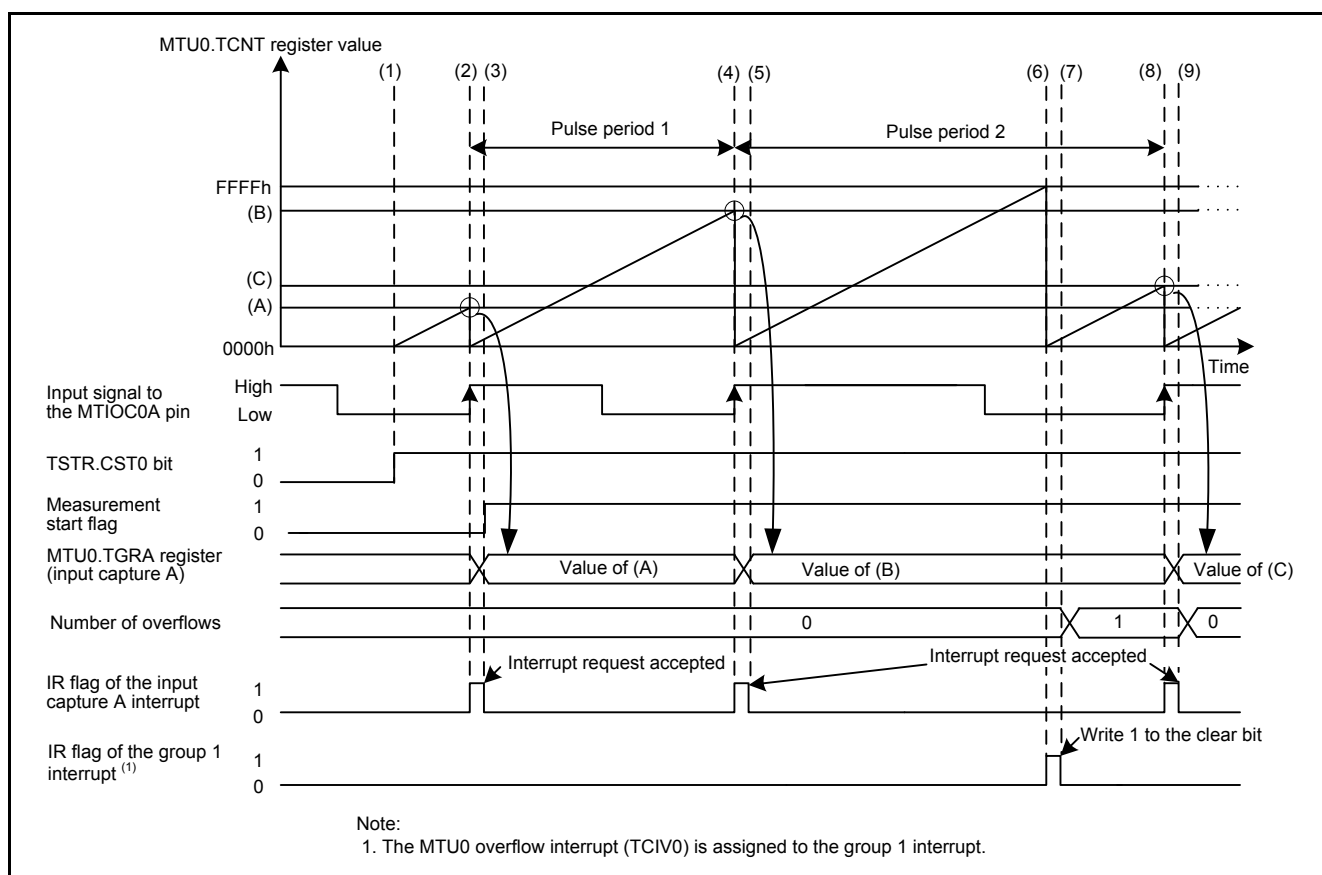

Figure 5.1 Timing Diagram of the Pulse Period Measurement
- (1) When the TSTR.CST0 bit is set to 1, MTU0 counter starts counting.
- (2) When the MTIOC0A pin level changes from low to high, the MTU0.TCNT register value is transferred to the MTU0.TGRA register and the counter is cleared. At the same time, an MTU0 input capture A interrupt request is generated.
- (3) In the input capture A interrupt handler, the measurement start flag is set to 1 (measurement starts) and the number of overflows is cleared.
- (4) When the MTIOC0A pin level changes from low to high, the same operation as (2) is performed.
- (5) A pulse period is calculated (pulse period 1 in Figure 5.1) based on the number of overflows of the MTU0.TCNT register (0 in (5) of Figure 5.1) and the MTU0.TGRA register value ((B) in Figure 5.1) in the input capture A interrupt handler. Then the number of overflows is cleared.
- (6) When the MTU0.TCNT register overflows, an overflow interrupt request is generated.
- (7) The number of overflows is counted in the overflow interrupt handler.
- (8) When the MTIOC0A pin level changes from low to high, the same operation as (2) is performed.
- (9) A pulse period is calculated (pulse period 2 in Figure 5.1) based on the number of overflows of the MTU0.TCNT register (1 in (9) of Figure 5.1) and the MTU0.TGRA register value ((C) in Figure 5.1) in the input capture A interrupt handler. Then the number of overflows is cleared.
Figure 5.1 shows the Timing Diagram of the Pulse Period Measurement. (1) to (9) in the figure correspond to (1) to (9) in the description above.